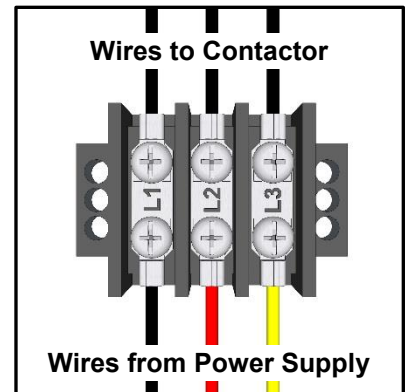

Figure 23
- 1 Have your certified electrician connect power to the 3 terminal T-bar and ground wire to grounding block. (see Figure 23)